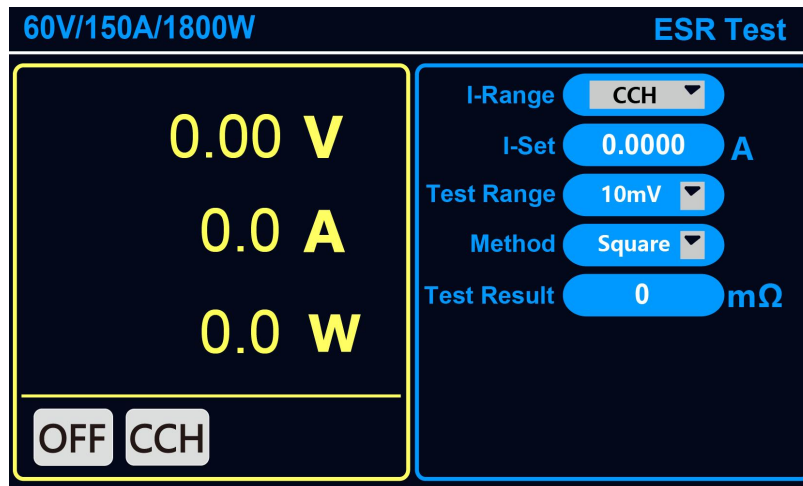

Figure 36 ESR Test
7. Connect a super capacitor or battery to the input and observe the display reading, as shown in Figure 36.